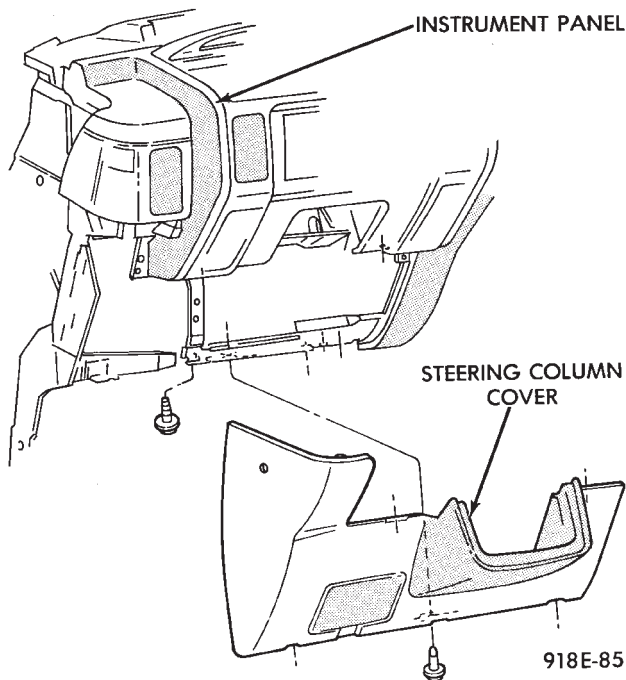

Fig. 38 Instrument Panel Steering Column Cover
- (1) Remove steering column cover to gain access to the body controller (Fig. 38).
- (1) Remove steering column cover (Fig. 38). Set parking brake and shift gear selector into low.
- (2) Remove lower left instrument panel silencer.
- (3) Disconnect transmission range indicator at column.
(2) Remove three mounting screws from the warning indicator module assembly and disconnect wire connector.
(3) Remove steering column cover (Fig. 38). Set parking brake and shift gear selector into low.
(4) Remove cluster bezel and disconnect wire connectors